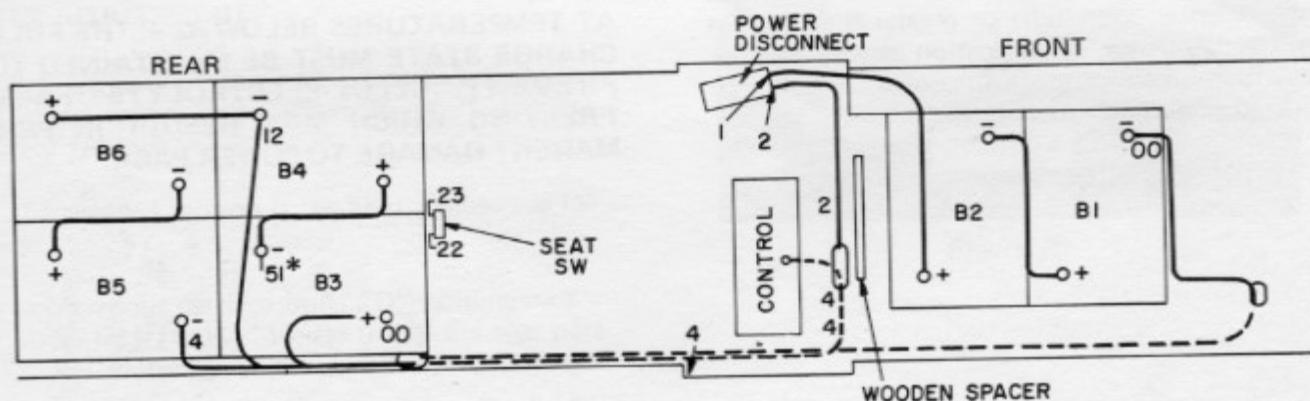

Figure 30
- Fig. 30, 31 & 32 - 1. Remove all loose parts from the forward battery compartment. Disengage the power disconnect.
4. Carefully set the batteries in the bag as shown in Figure 30 so that the sides of the bag remain above the top battery surface in equal amounts.
6. Connect the battery cables in accordance with Figure 30. Coat the terminals, **after** connections are made with a thin coat of grease. Make sure that all surfaces are coated.
5. Carefully set the batteries in the bag as shown in Figure 30 & 31 so that the sides of the bag remain above the top battery surface in equal amounts and all wires are accessible.
6. Connect the battery cables and wires in accordance with Figure 30 & 31. Coat the terminals after the connections are made with a thin coat of grease. Make sure that all surfaces are coated.